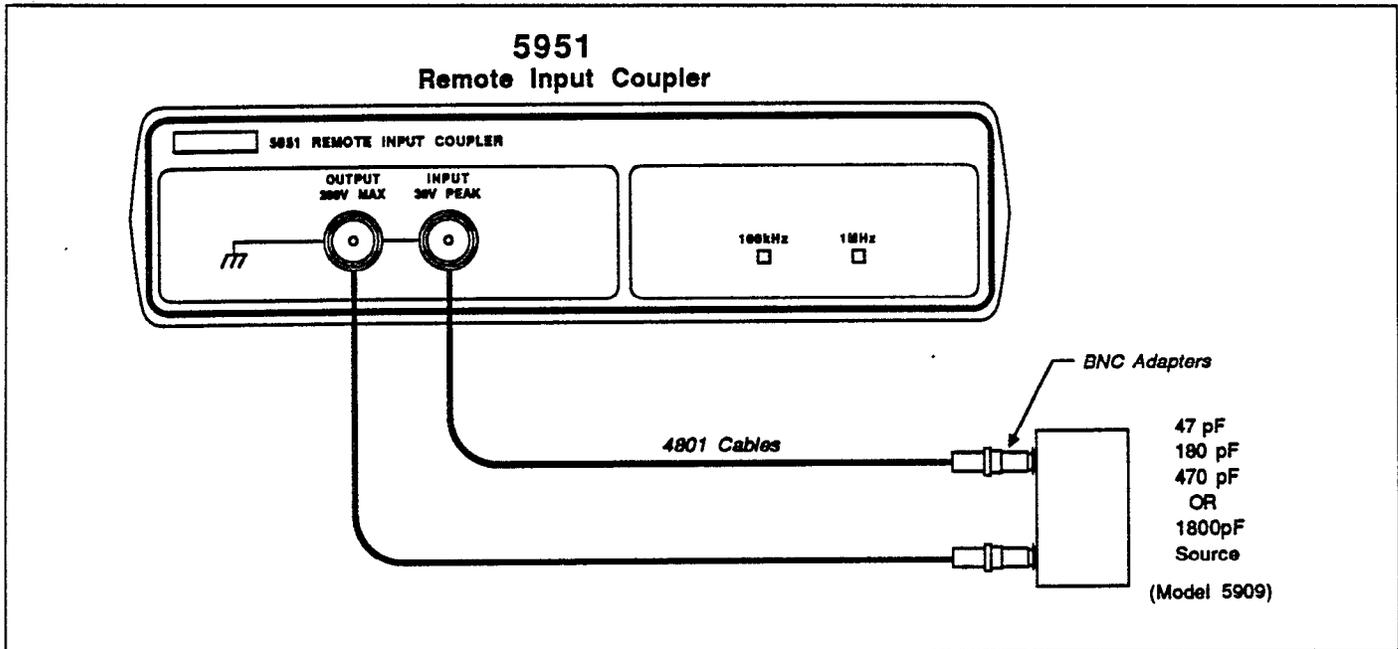

Figure 3-12. Cable Correction Connections
In order to correct your system, it will be necessary for you to disconnect your test fixture and connect each calibration capacitor in its place when prompted to do so, as shown in Figure 3-12. Use the supplied female-to-female BNC adapters to connect the sources to the cables.
6. Follow the prompts to complete the correction process. For each range and frequency, you will be prompted when to disconnect the cables and connect the appropriate sources, as shown in Figure 3-12. After each correction, you will be given an opportunity to retry (press "R"). The Retry option will allow you to repeat the correction for the presently-selected range and frequency (for example 100kHz/2nF or 1MHz/200pF).